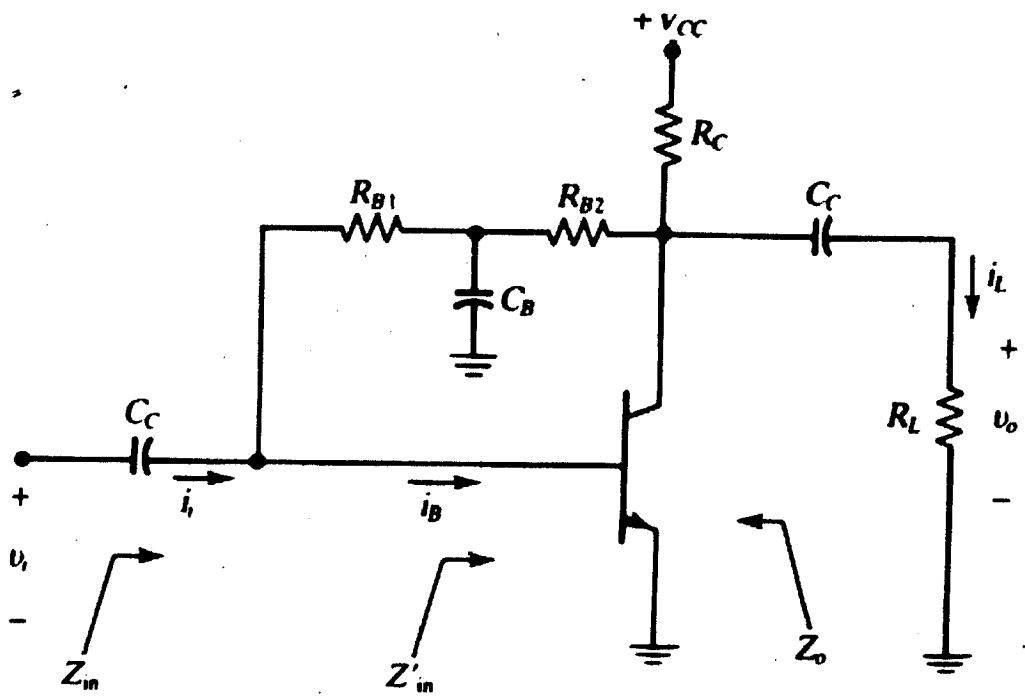

fig6.
- Q6. a. Draw a small-signal h-parameter equivalent circuit for the common emitter amplifier of figure 6, if  $h_{oe}$  and  $h_{re}$  are negligible.